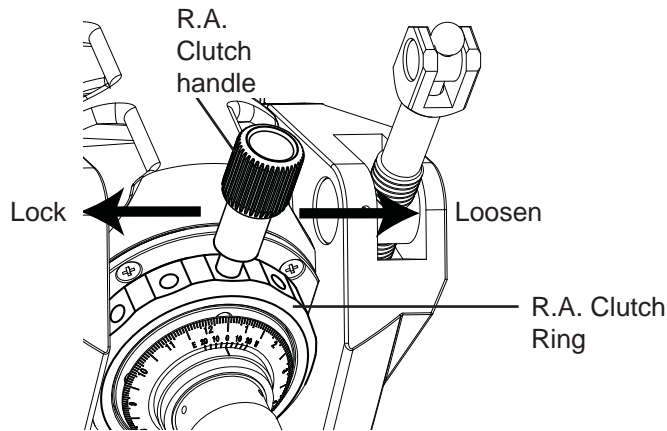

Fig. 2.1a
1. Release the R.A. Clutch to manually rotate the R.A. Axis. (Fig. 2.1a)
2. The R.A. Clutch handle can be removed and re-positioned on the clutch ring for adjustment of the tightening strength. (Fig. 2.1a)